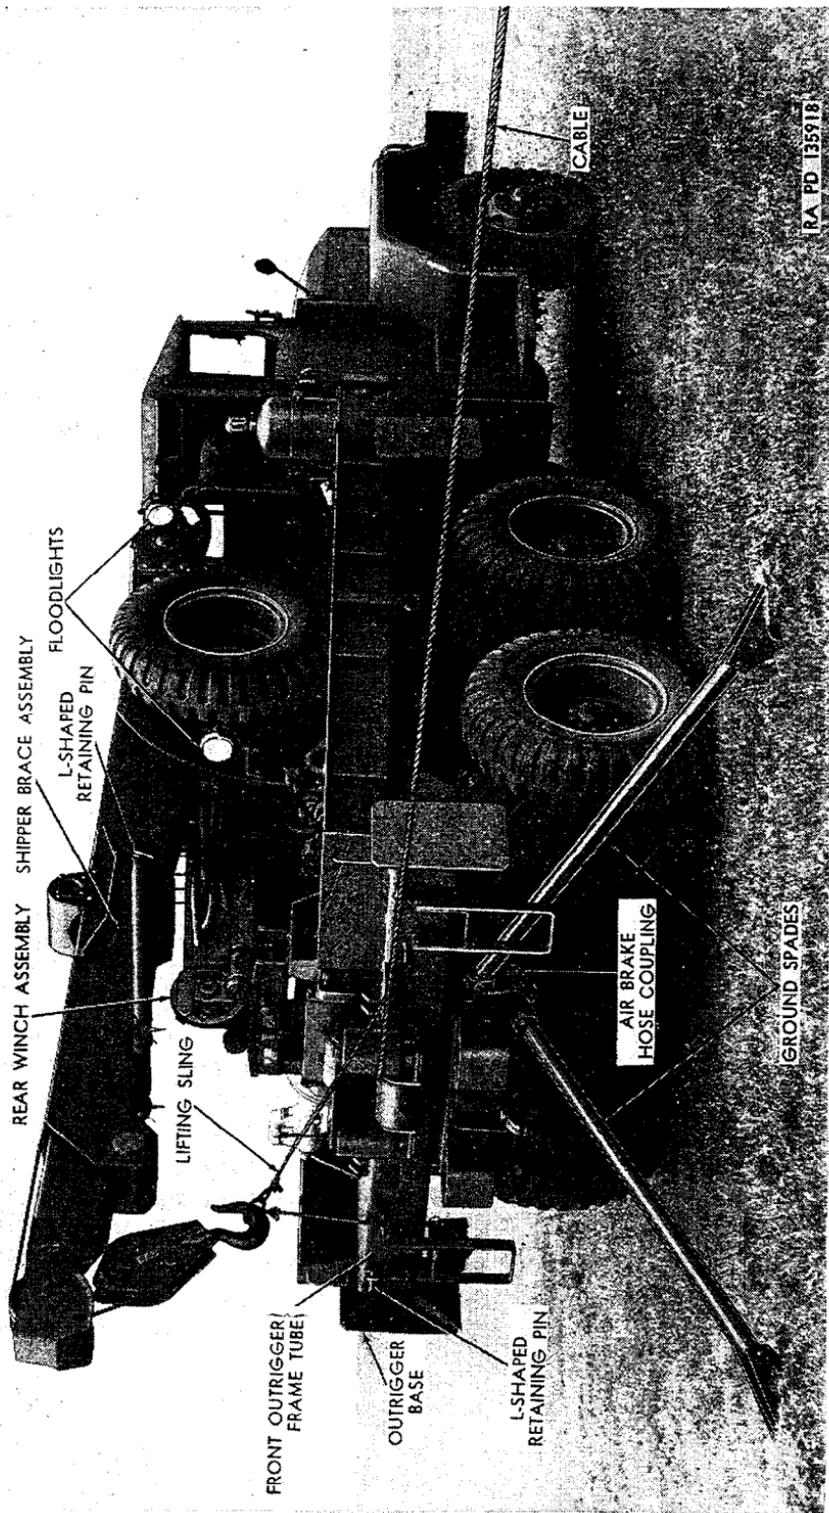
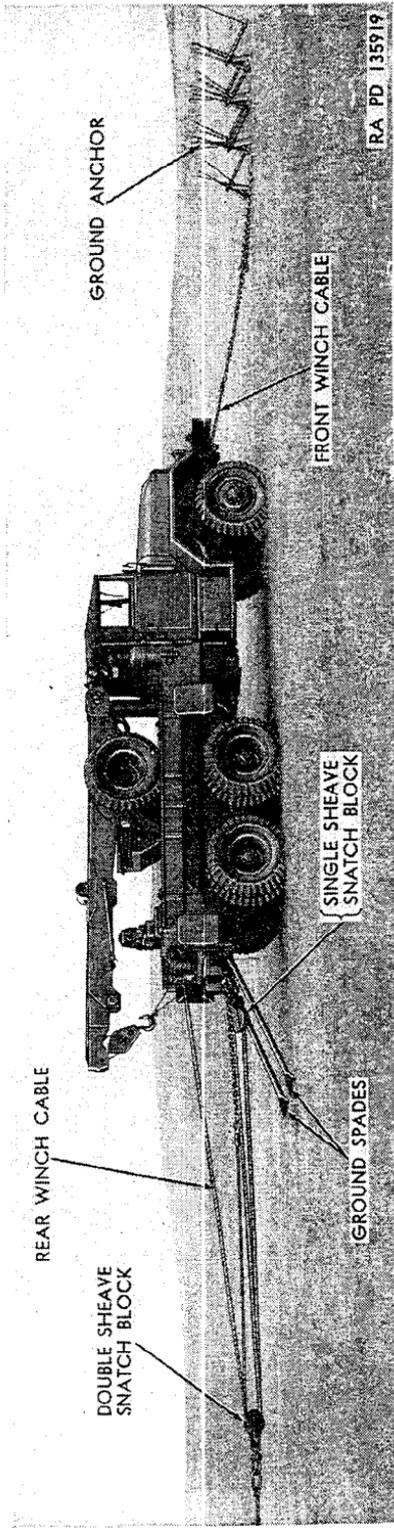

Figure 76. Ground spades positioned for rear winch operation—M62.
Figure 77. Ground spades and ground anchors positioned for heavy rear winch operation—M62.
- (4) *Pulling heavy load.* In order to stabilize the vehicle for heavy rear winching operations, attach ground spades (fig. 76) in the brackets provided at the rear of the truck frame. Attach the front winch cable to a tree or utility pole. Where no natural anchorage is convenient, ground anchors (fig. 77) should be used in series to form a suitable anchorage. Attach front winch cable to the stakes and draw cable tight. Single and double sheave snatch blocks are provided with wrecker equipment. Since the use of snatch blocks will relieve the load on the cable, one-part, two-part, three-part, or four-part lines should be rigged according to the requirements of the load.
- (c) Two floodlights on the truck (figs. 76 and 81) and one on the crane revolving structure are provided for night operation. A separate switch is provided on each light and all are connected to a master switch (par. 37) in the truck cab.
- (1) *Outriggers.* To position the outriggers (fig. 81), remove the L-shaped retaining pin (fig. 76) at the end of one of the outrigger frame tubes. Pull out on the outrigger base (fig. 76) until the frame hits the stop (fig. 81). Lower the outrigger to the vertical position, align the retaining pinholes in the frame tube, and insert the L-shaped retaining pin (fig. 81). Insert the jack adjusting bar (fig. 81) provided in stowage in one of the holes near the top of the outrigger, and turn out the adjusting screw until a slight pressure of the base against the ground is obtained. Repeat the above procedure at the other three corners of the wrecker body.
- (2) *Shipper brace assemblies.* To rig the brace assemblies (fig. 76), remove the L-shaped retaining pin securing the bottom end of one of the brace assemblies to the side of the shipper. Remove the L-shaped retaining pin used to secure the male brace inside the female brace, and position the lower end of the brace assembly between the uprights of the bracket (fig. 81) attached to the front outrigger frame tube. Secure the bottom end of the brace assembly to the bracket with the L-shaped retaining pin which was removed from the side of the shipper (fig. 76). Repeat the above procedure for the brace assembly on the opposite side of the shipper line. Line up the retaining pinholes in the male and female braces and insert L-shaped retaining pins
the boom fully retracted, over the rear of the truck. Secure the lifting sling (fig. 76) provided in storage to the cable hook and to the eyes attached to the front outrigger frame tube (fig. 76). Raise the cable hook as necessary to remove all slack from the lifting sling. Move the hydraulic pump control lever (fig. 75) toward the rear of the truck to the DISENGAGE position (fig. 48). Be sure the clutch control valve lever (fig. 75) is in the ENGAGE position (fig. 47). Move the power divider control lever in the cab (fig. 67) toward the rear of the truck to the DISENGAGED position (fig. 46).